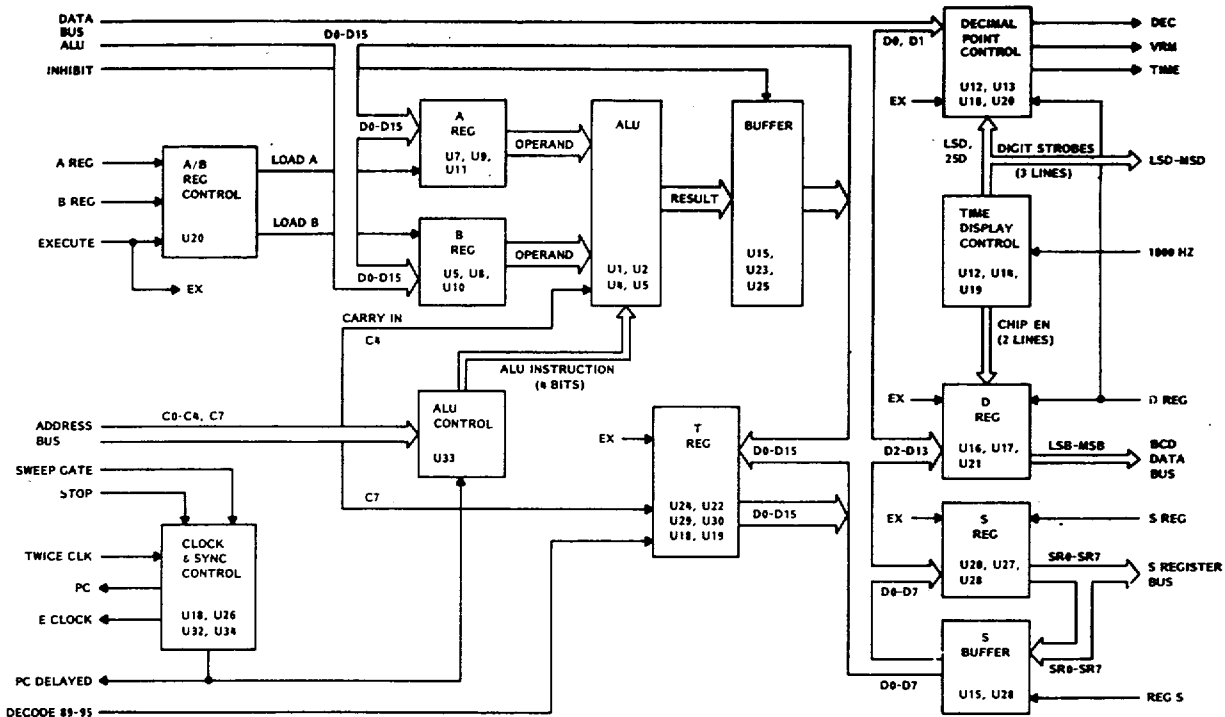
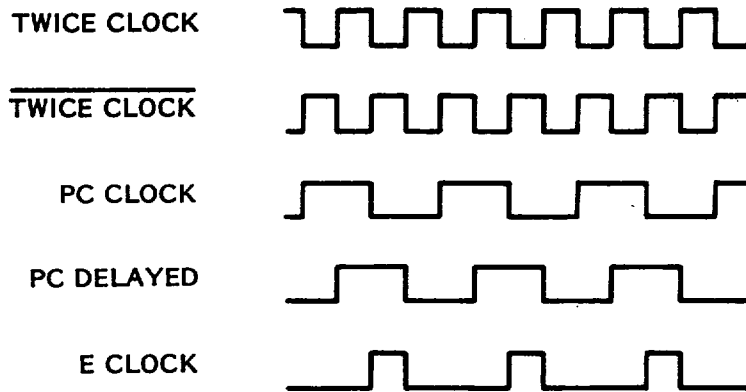

Figure 4-5 TM/EP Processor PCB Block Diagram
Figure 4-6 Processor Clock Timing
The plotting time display control circuitry is also located on this PCB. A block diagram of the processor PCB is shown in Figure 4-5. Processor clock timing is shown in Figure 4-6.
4.3.6.4 Clock and Sync Control - The 2.02 MHz, twice clock (TC) signal from the indicator is inverted by U18 and used to clock the divide by two sections of U26 at pin 3. The divider output (U26-5), a 1 MHz (nominal) square wave is applied to the processor circuits as the PC CLOCK signal. Refer to the processor clock timing diagram of Figure 4-6.